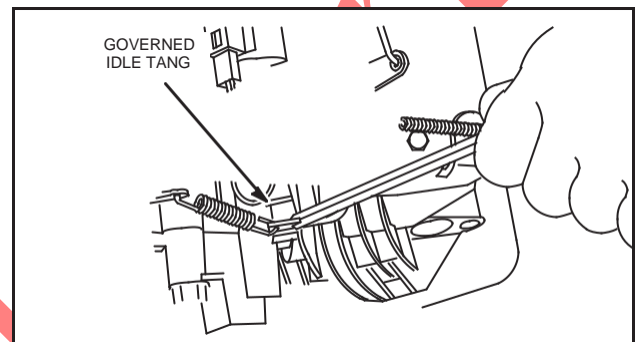

Fig. 27 – Adjusting Governed Idle
3. Bend governed idle tang to obtain 1750 RPM, Fig. 27.